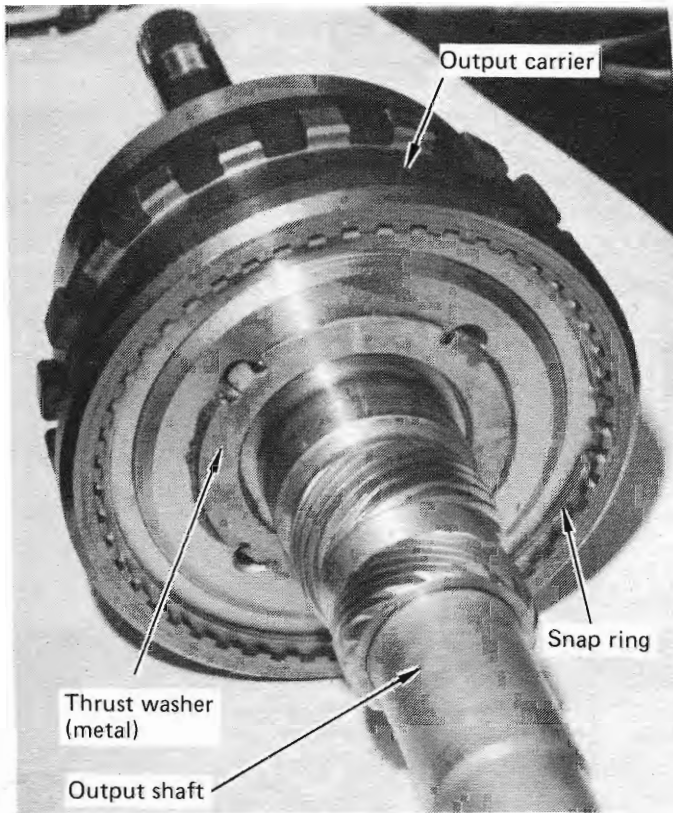

FIGURE 27
STEP 3. Remove the snap ring from the back side of the output carrier. (See Fig. 27) Note. This is a strong snap ring. Disassemble output shaft from carrier. There is a bearing assembly between the output shaft and the rear internal ring